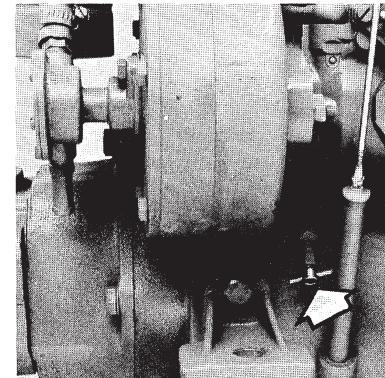

Fig. 25. Drain cock for cooling water
- a. Drain off all cooling water from the engine and exhaust manifold by opening drain cock on the starboard side, see Fig. 25. Then close the cock. Remove the drain plug under the reduction gear (ratio 1.91:1) and drain off the cooling water. Screw back the plug.